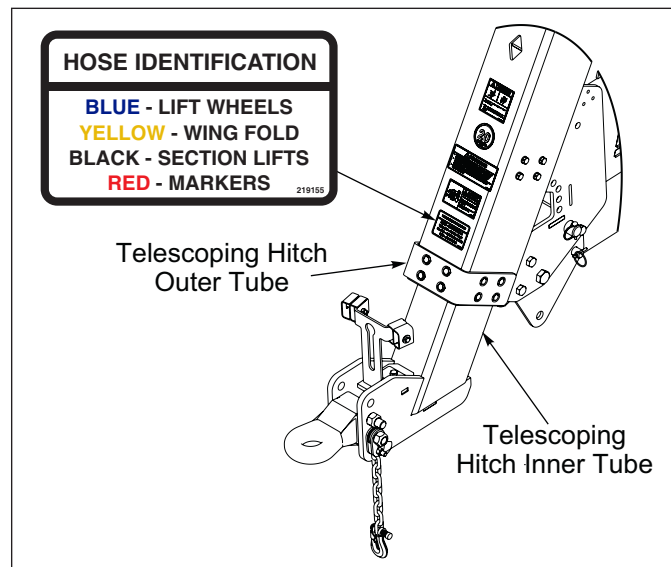

Figure 5-5: Hose Identification Decal
1. The hydraulic hoses are color coded to help identify and match the attaching hoses on the Seeder. An identification decal is placed on the front of the hitch to help identify the hoses. **See Figure 5-5.**